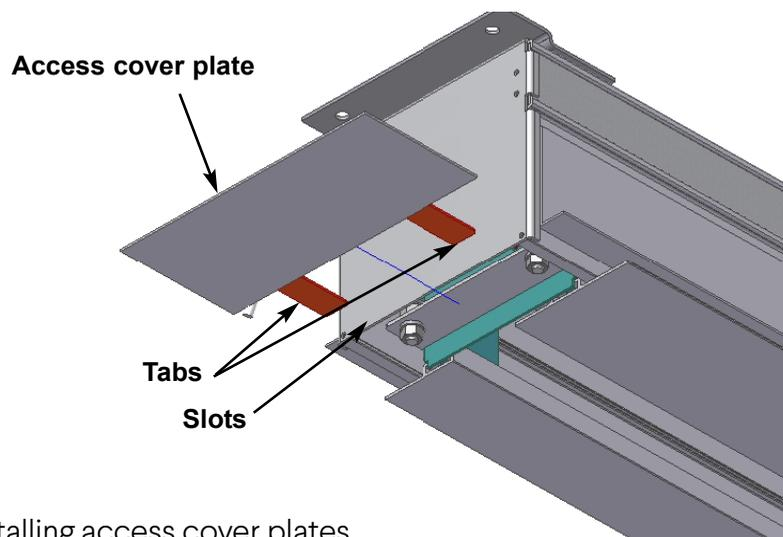

Figure 10: Installing access cover plates
2. Pushing the plate in until it is flush. Refer to Figure 10.